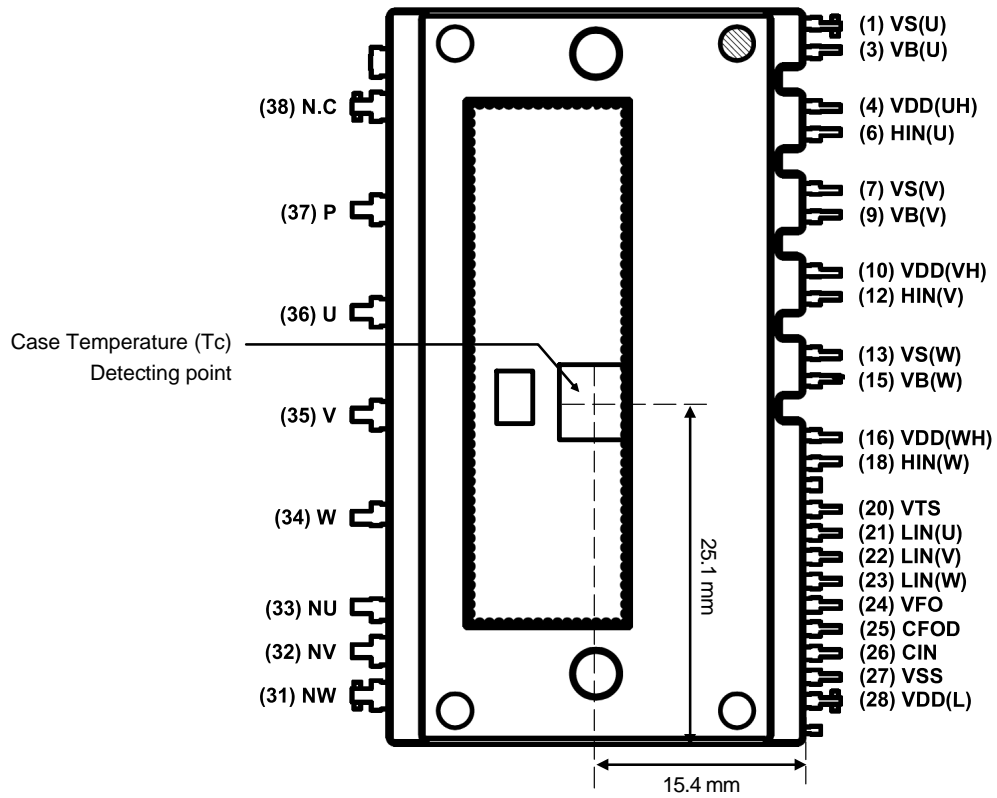

Figure 8. Case Temperature (Tc) Detecting Point
- For the measurement point of case temperature (Tc), please refer to Figure 8.